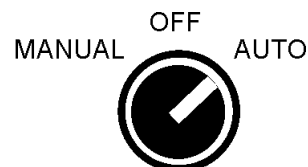

Figure 19. Manual-Off-On SW. (AUTO Position)
3. For automatic operation of the pump, place the 3-position operation switch (Figure 19) on the control box in the **AUTO** position.